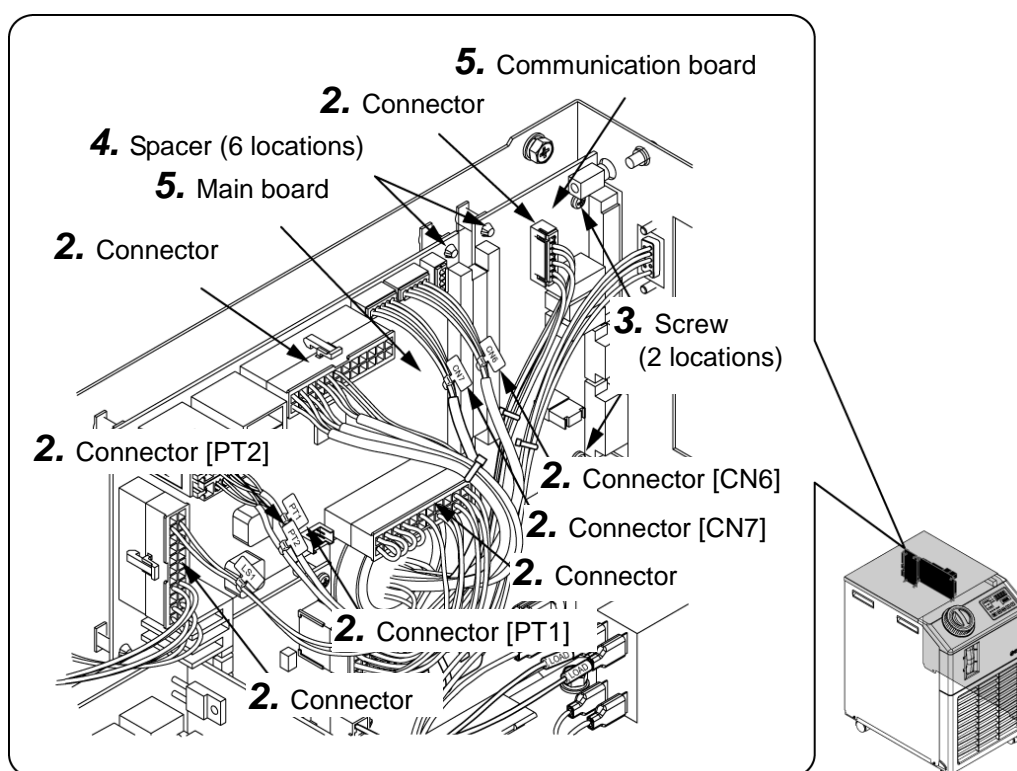

Fig. 4.5-35 Removal of main board & communication board
4. Hold the spacer (6 locations) to remove main board and communication board. (Refer to Fig. 4.5-35 Removal of main board & communication board.)